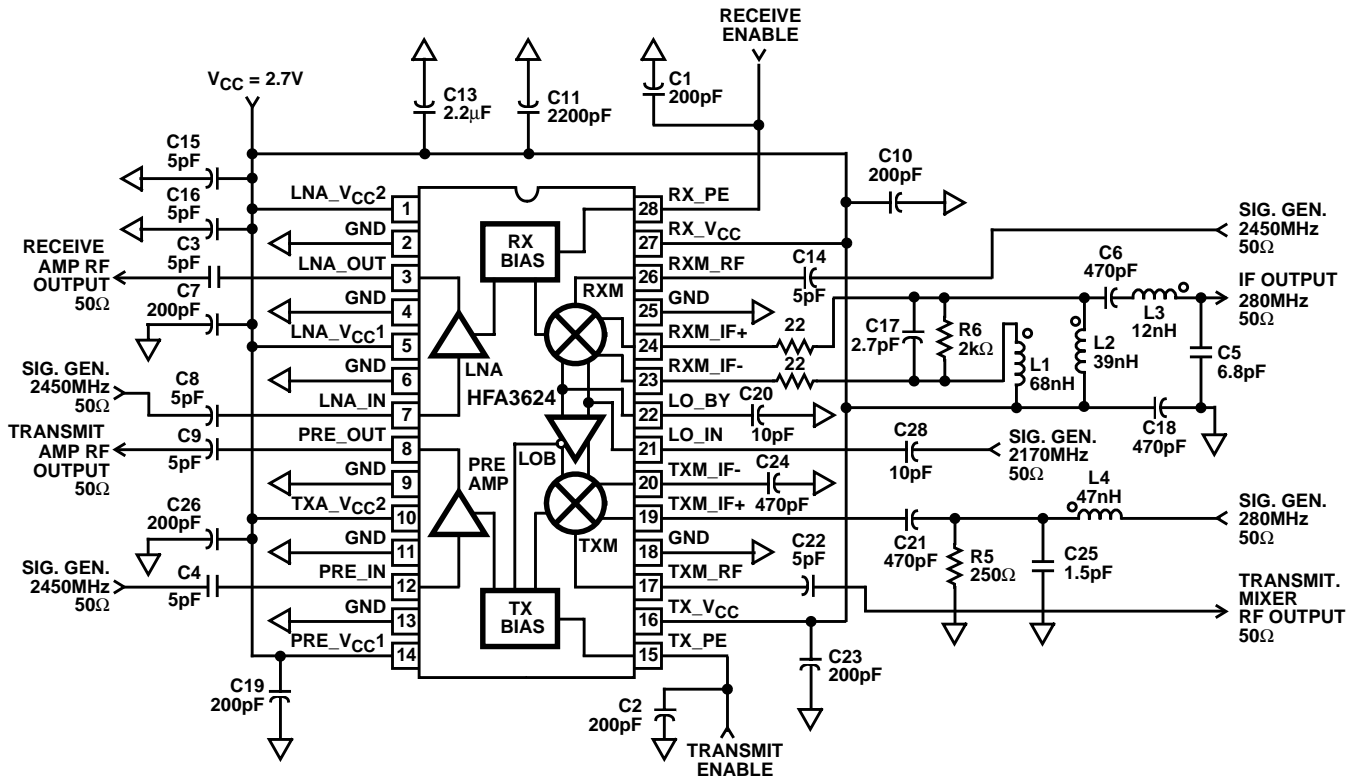

FIGURE 5. OPTIMIZED LAB EVALUATION CIRCUIT
- See Figure 5 Test Circuit for 50Ω IF matching network component values.
- Transmit mixer measured with Impedance Transform Network 250Ω at device to 50Ω at the source. Refer to Figure 5, pin 19.
- Implied limit, production measurement uses 50Ω termination at pin 19 (RSIF = 50Ω). Typical transmit conversion gain increase of 5.5dB with application circuit Figure 5 (RSIF = 250Ω).
- Enable/Disable Time Specifications are tested with the external component values shown in the Figure 5 Test Circuit, with an IF frequency of 280MHz. Specifically the AC coupling capacitors on the TXM\_IF+ and TXM\_IF- pins are biased up to operating voltage from a fixed internal current source at power up. Increasing these AC coupling capacitors above 100pF will slow Enable Time proportionately.
NOTE: Transmit mixer measured with Impedance Transform Network 250Ω at device to 50Ω at the source. Refer to Figure 5, pin 19.